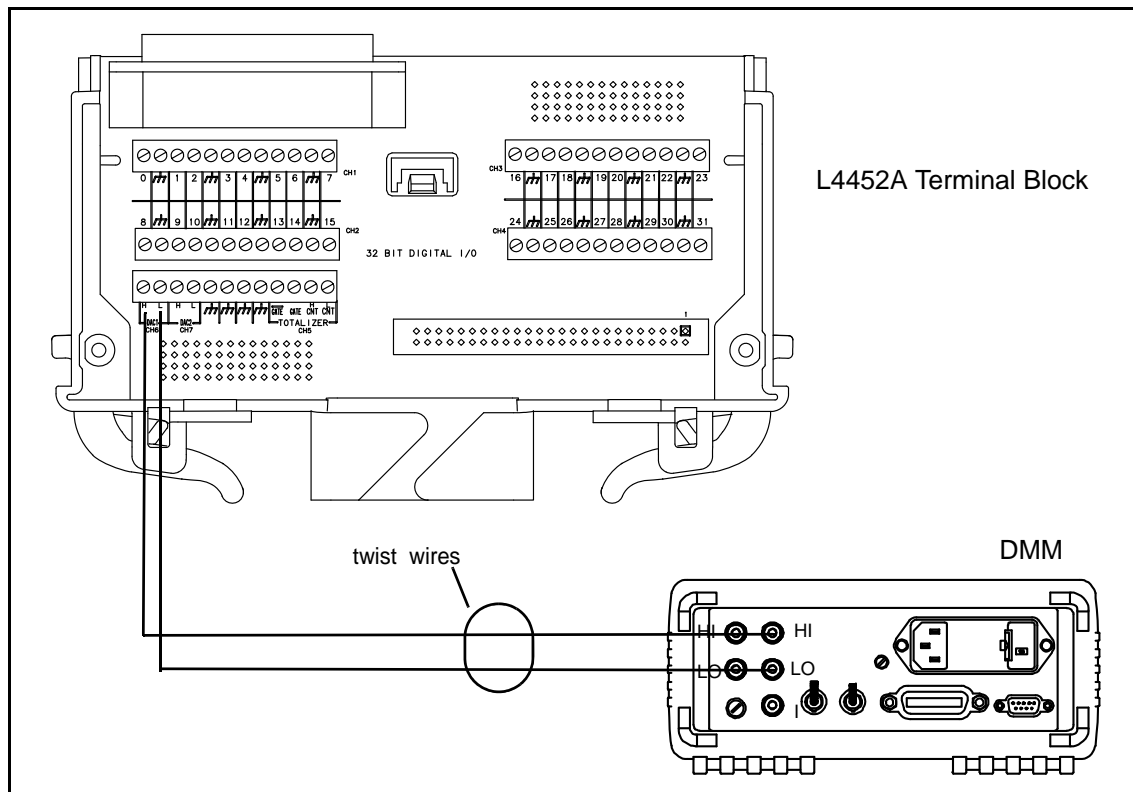

Figure A-3. L4452A DAC Output Connections (Channels 6 and 7).
The test connection for verifying the DAC output voltage on channels 6 and 7 of the L4452A are shown in Figure A-3.
- 3 Connect channel 6 of the L4452A as shown in Figure A-3. Configure the L4452A to output the voltages listed in Table A-5. For each voltage level measured, subtract the offset voltage recorded in Step 2 as applicable. The results should be within the limits listed in Table A-5.
- 4 Connect channel 6 of the L4452A to the DMM as shown in Figure A-3. Set the DMM to measure DC volts.
- 7 Connect channel 7 of the L4452A to the DMM as shown in Figure A-3. Repeat Steps 5 and 6 for channel 7.